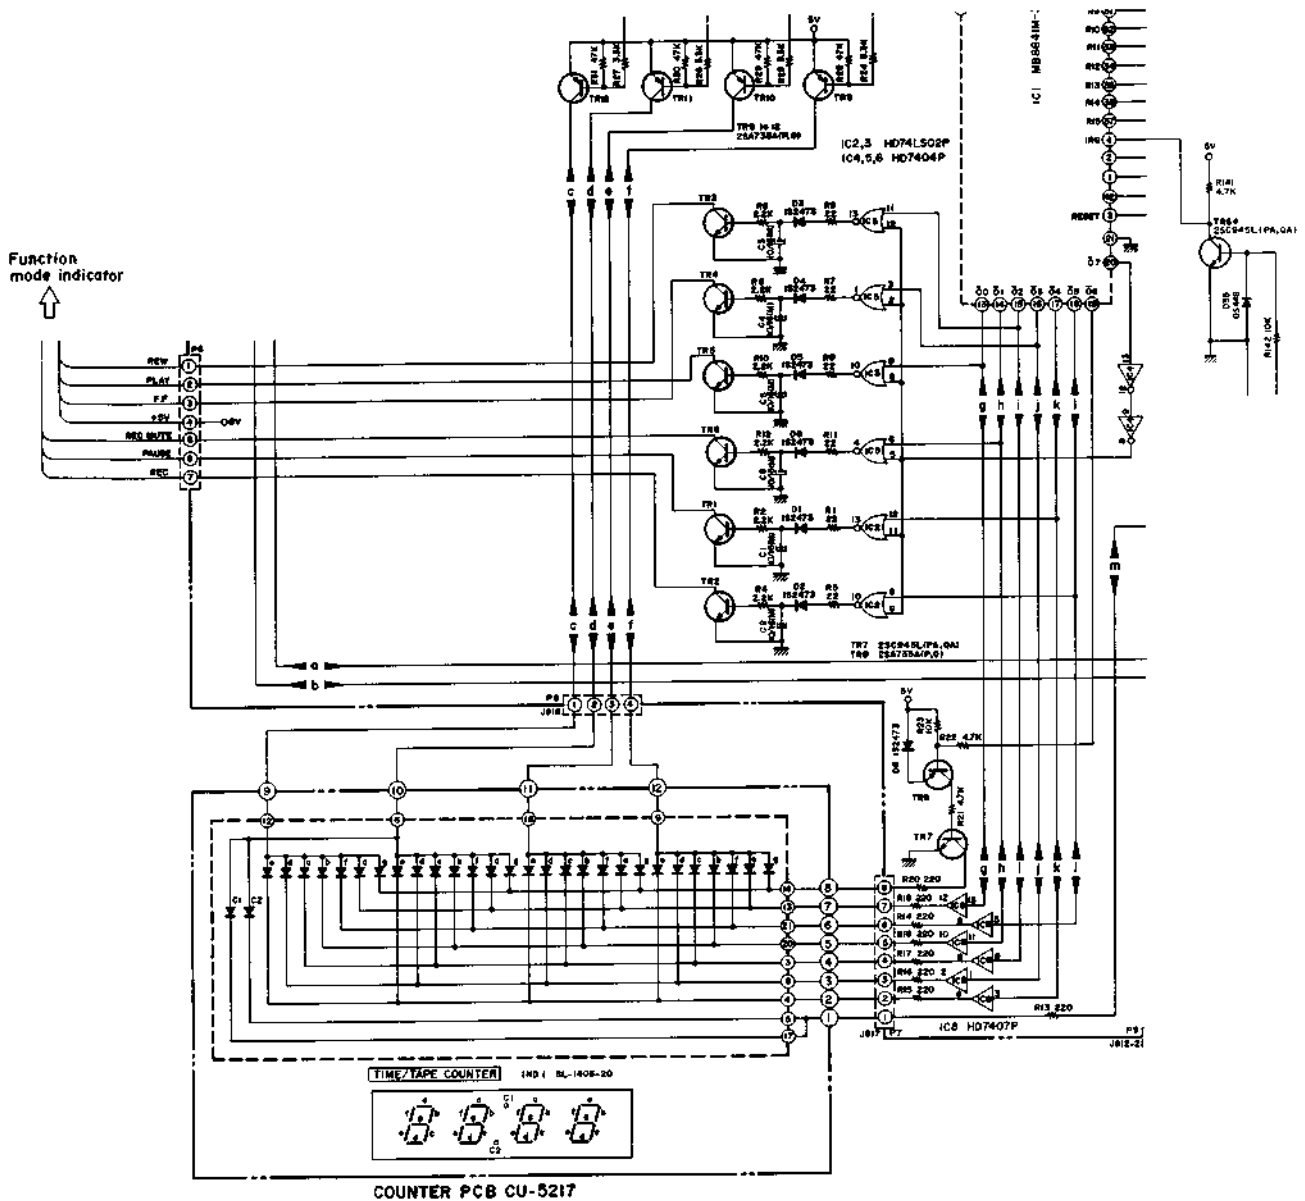

Fig. 45 Function mode Indicator Activation and Counter Display Circuits
supplied to NOR gates shown in Fig. 45. Shown above as an example is the PAUSE indicator activation circuit. Since both  $O_4$  and  $O_7$  are at "L" level (see the "Function Mode Ind." column), a waveform shown at ③ appears at terminal ⑬ of IC2.
The tape count pulse, or the pulse from the photocoupler on the detector PC Board whose waveform is reshaped by TR56, TR53 and TR54, is supplied to the microcomputer. The pulse is then counted within the microcomputer before being sent out through terminals  $O_0 - O_6$  as the display signal. Note that TR7 and TR8 shown in Fig. 45 (circuit diagram) are incorporated because of insufficient buffer capacity of IC8.